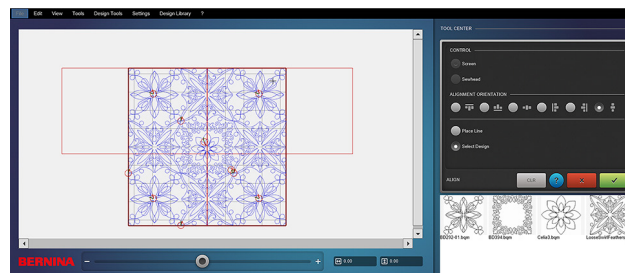

Fig. 80
10. Select the designs in the center row one at a time to center (Fig. 80).